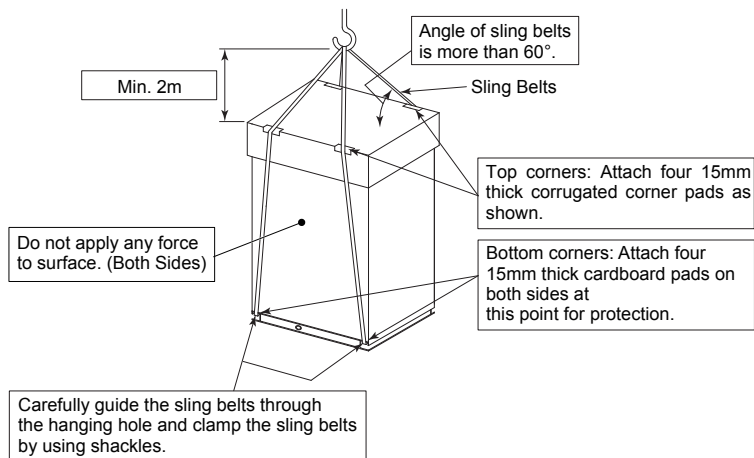

Figure 5.2 Suspending Unit without Wooden Skid Base
- (5) Suspend the unit without a wooden skid base with two sling belts as shown in Figure 5.2.